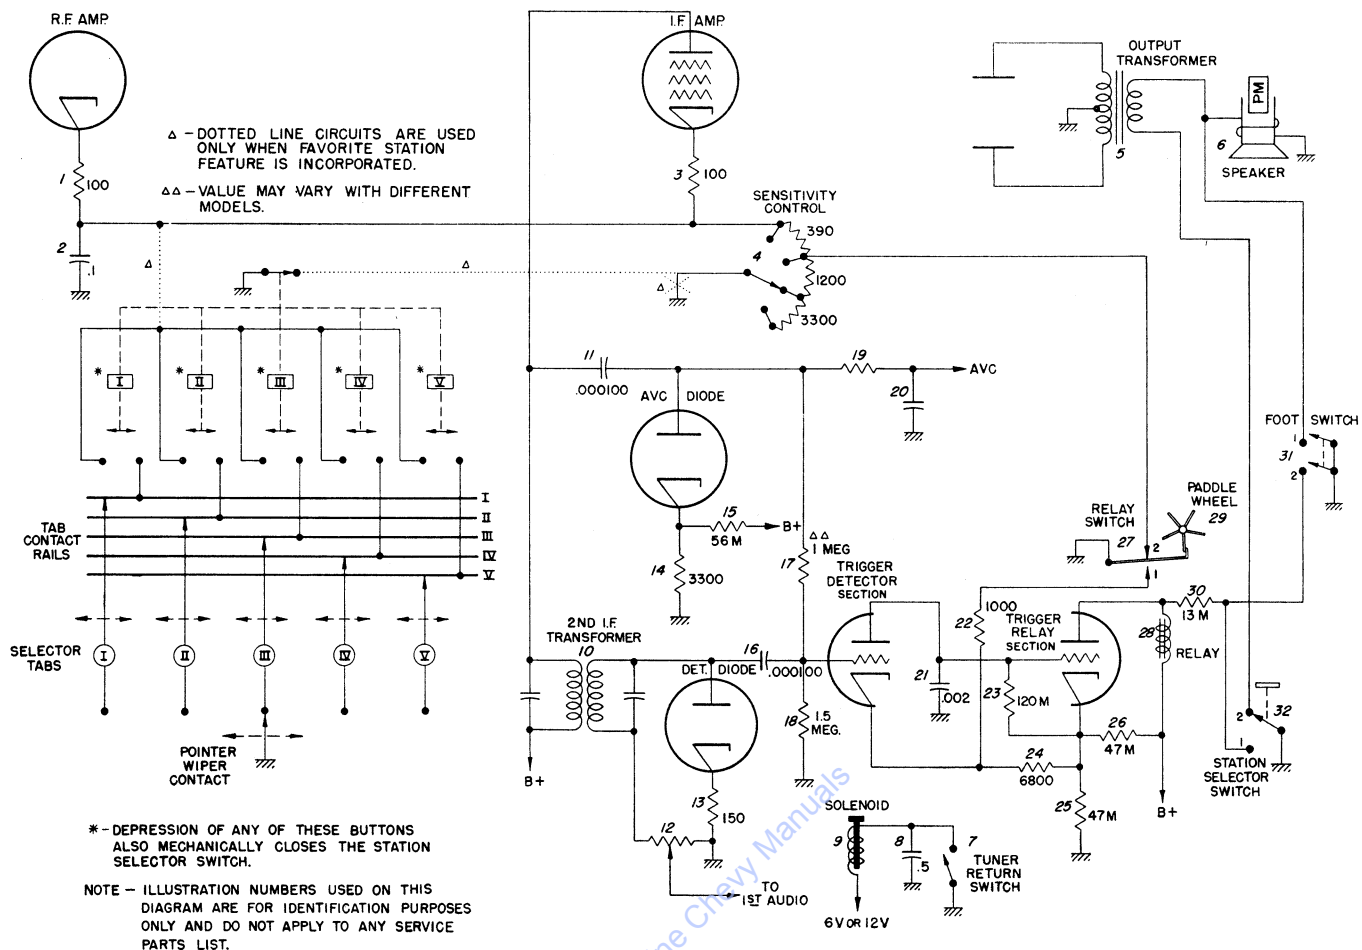

Fig. 10
## Section 9—Electrical Operation Cycle (See Figure 10)
## Section 10—Modification to the Electrical Cycle of Operation when favorite station tuning is employed (See Figure 10)
The favorite station circuit is activated when any one of the buttons is depressed. This mechanically trips the Station Selector Switch (32) and at the same time shifts the ground for the RF and IF cathode string from the sensitivity control arm to ground through the Tab Contact Rails, the Selector Tabs, and the pointer wiper contact (See dotted line circuits in Fig. 10). Therefore, the ground is actually present only when the pointer wiper con-
## Section 11—Modification to the Electrical Cycle of Operation When Foot Switch (3) tuning is employed (See Figure 10)
## Section 12—The Trigger Detection Circuit (See Figure 10)
## Section 13—Sensitivity Control (See Figure 10)